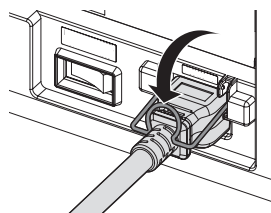

Fig. 3
- 3) Lower the power cord holder. (Fig. 3)